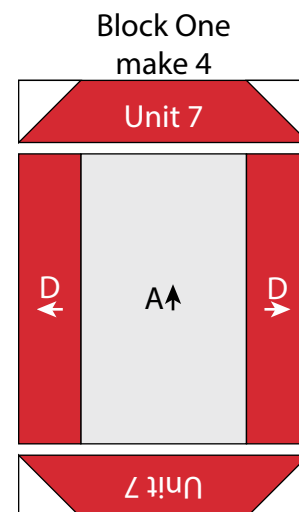

Fig. 21
15. Sew (1) 3 ½" x 14 ½" Fabric D strip to each side of (1) 8 ½" x 14 ½" Fabric A strip. Sew (1) unit 7 strip to the top and to the bottom of the Fabric A strip to make (1) 14 ½" x 20 ½" Block One rectangle (Fig. 21). Repeat to make (4) Block One rectangles total.